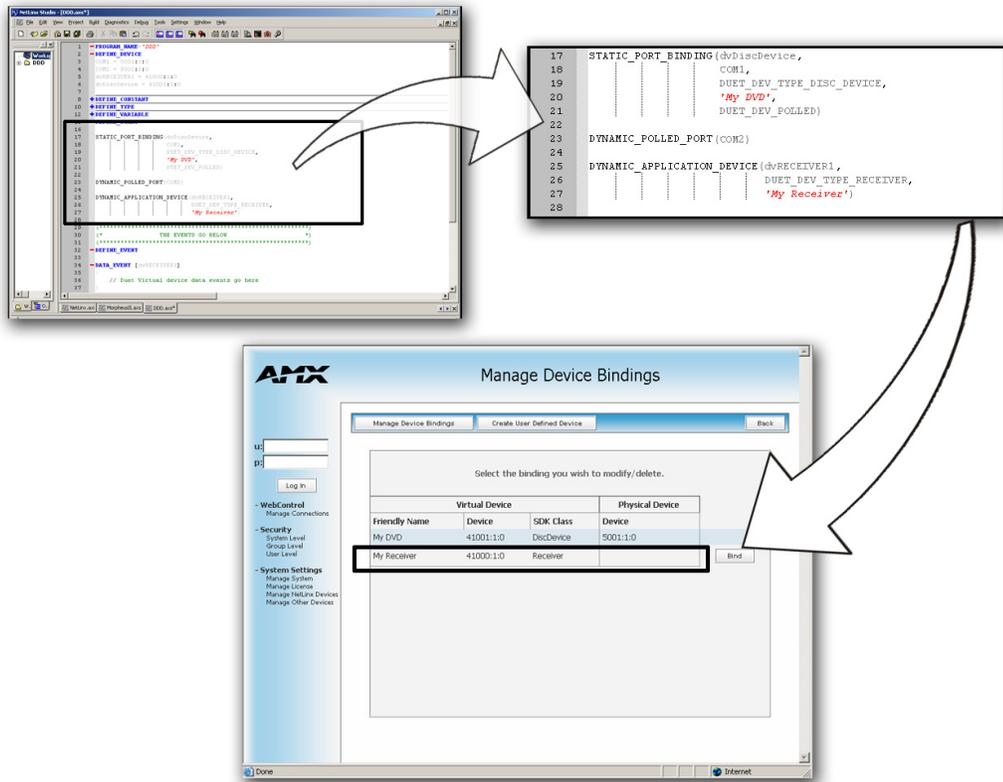
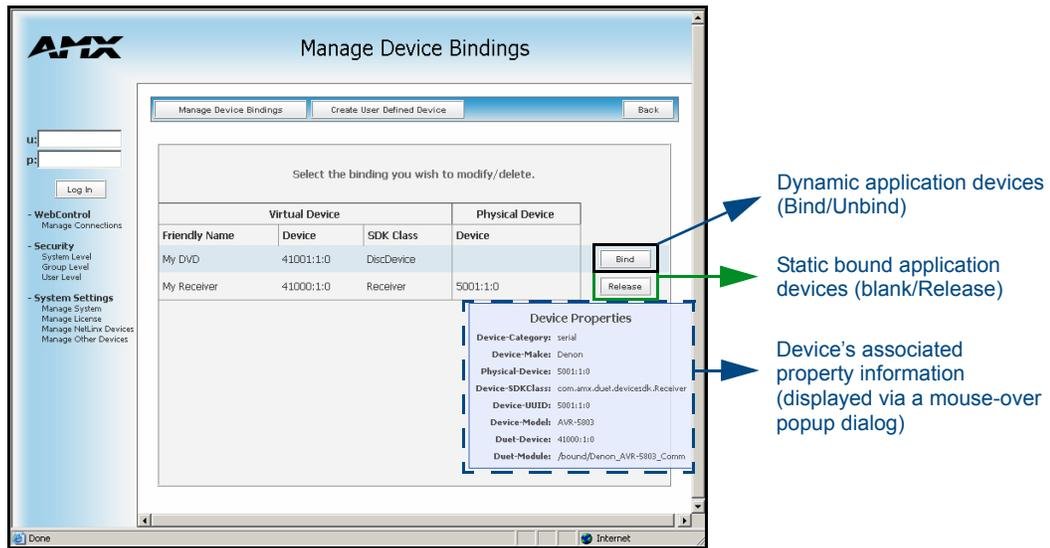

FIG. 67 Manage Device Bindings page - showing the NetLinx code relation
FIG. 68 Manage Device Bindings page
To access this page, click on the **Manage Device Bindings** button (*from within the Manage Other Device page*). This page is used to configure application-defined Duet virtual devices with discovered physical devices. The on-screen table (FIG. 68) displays a list of all application-defined devices (including the defined "friendly name"), the Duet virtual D:P:S, and the associated Duet Device SDK class (indicating the type of the device). This information would have been pre-coded into the NetLinx file currently on the target Master (FIG. 67).
Elements such as `DUET_DEV_TYPE_DISC_DEVICE` and `DUET_DEV_POLLED` are defined within the NetLinx `axi`. The latest version of the NetLinx.`axi` file contains both the new API definitions, as well as the pre-defined constants that are used as some of the API arguments (ex: `DUET_DEV_TYPE_DISC_DEVICE`). Sample code can be found within the `DEFINE_START` section seen in FIG. 67:
Each entry in the table has one of four values appear within the far right of the Manage Device Bindings page (FIG. 68).
- Add the NetLinx `STATIC_PORT_BINDING` API call to the section of the NetLinx program (FIG. 67 on page 86) containing the: Duet Virtual Device D:P:S, the NetLinx physical device D:P:S, the Duet Device type constant, and the associated friendly name string.
- Add the `DYNAMIC_APPLICATION_DEVICE` API call to the section of the NetLinx program (FIG. 67 on page 86) containing the Duet Virtual Device D:P:S, the Duet Device type constant, and the associated friendly name string.